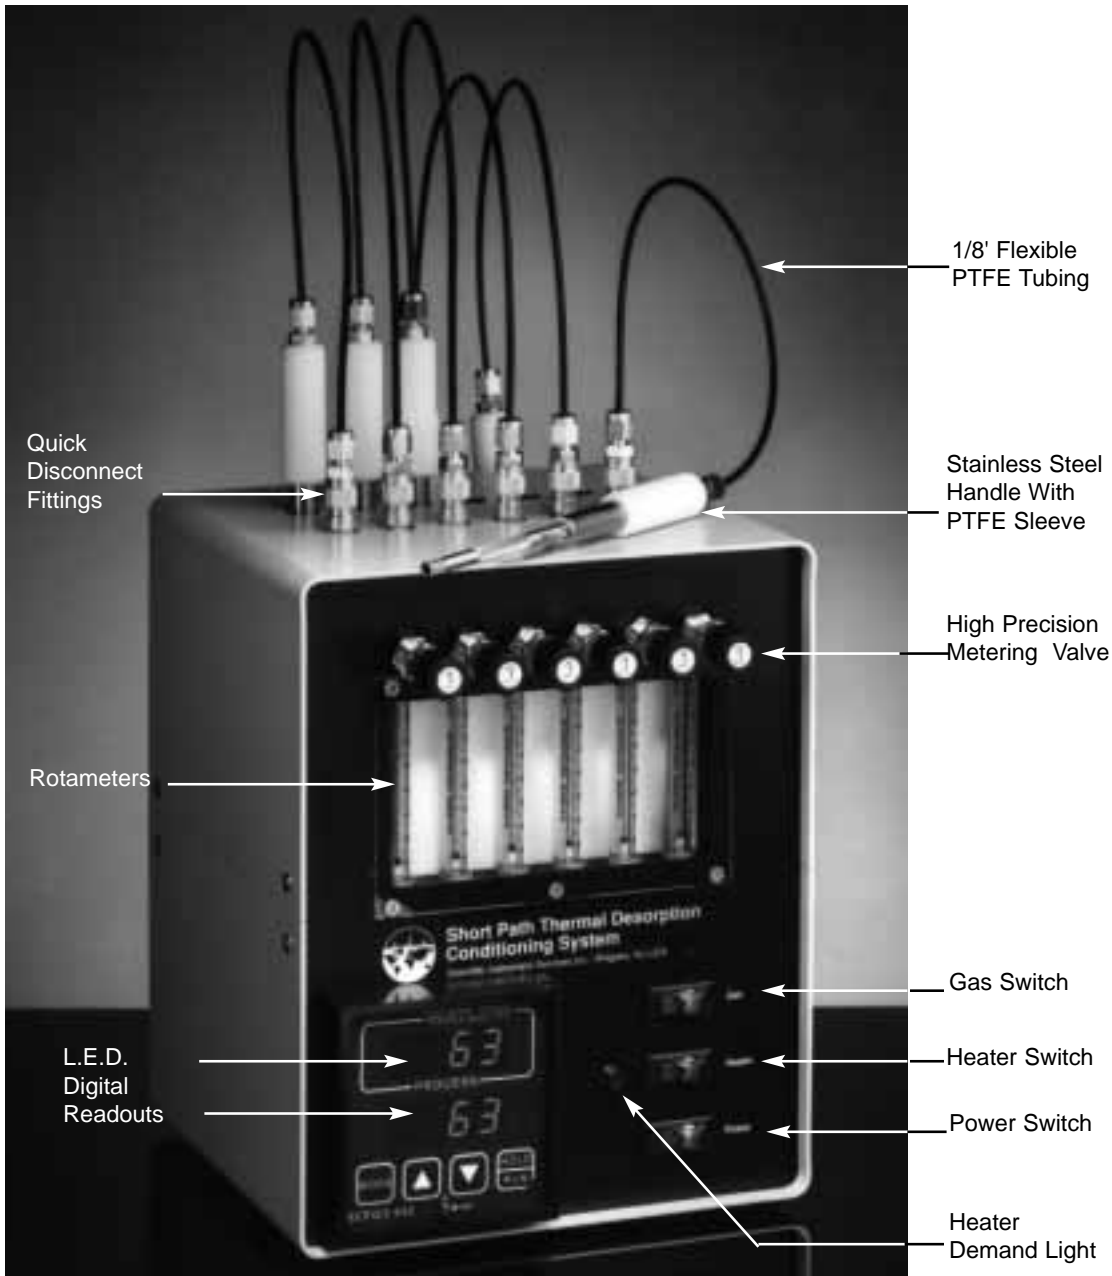

Figure 2 - Desorption Tube Conditioning Oven - Front View
A. Front Panel Description (Fig. 2)